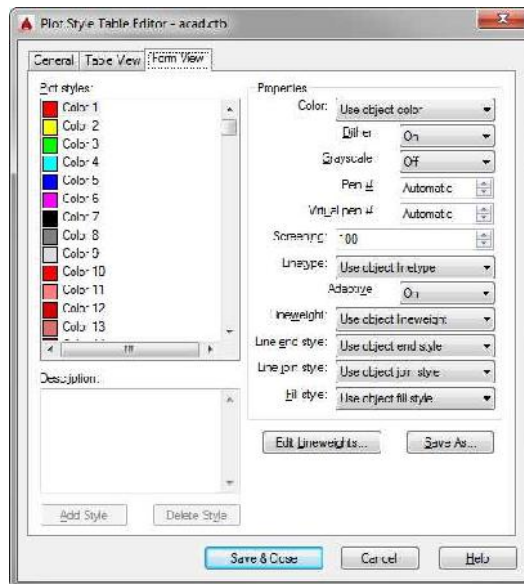

FIGURE 15.21: The Form View tab of the Plot Style Table Editor dialog box for the acad.ctb file
5. Click the Form View tab (see Figure 15.21).